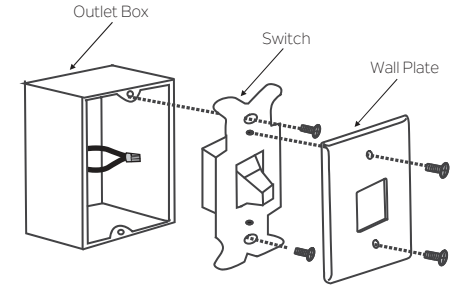

Fig. 27
Step 1. Remove the existing wall plate and the old switch from the wall outlet box. Wire nut the BLACK leads (hot) together and push back inside the outlet box. **(Fig.27)**